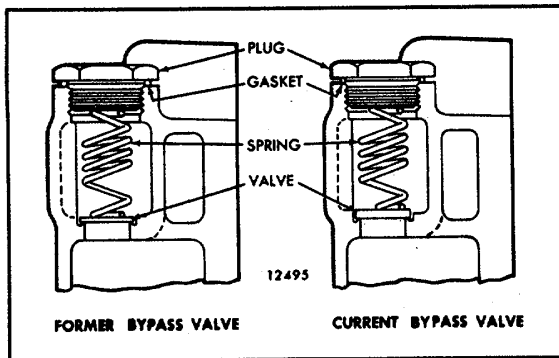
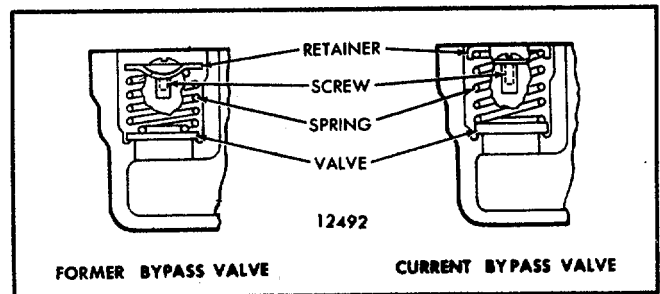

FIG. 5 - Bypass Valve Assembly Secured by Plug
FIG. 6 - Bypass Valve Assembly Secured by Retainer and Screw
1. Remove the plug and gasket (Fig. 5) or the screw and retainer (Fig. 6) and withdraw the spring and bypass valve.
4. Reassemble and install the bypass valve. Use only the current bypass valve and spring (Fig. 5) or service. The current thicker valve and stiffer spring
currently used in the bypass valve assembly shown in Fig. 6. To filter adaptors and filter junction housings have been revised by deepening the valve cavity to accommodate the thicker valve and related parts.
9 . Inspect the vertical oil passage in the cylinder block for the presence of the cup plug which directs the flow of oil through the oil cooler (Fig . 5) . Absence of this
Mounting FIG . 5 - Location of Cylinder Block Oil Gallery Cup Plug